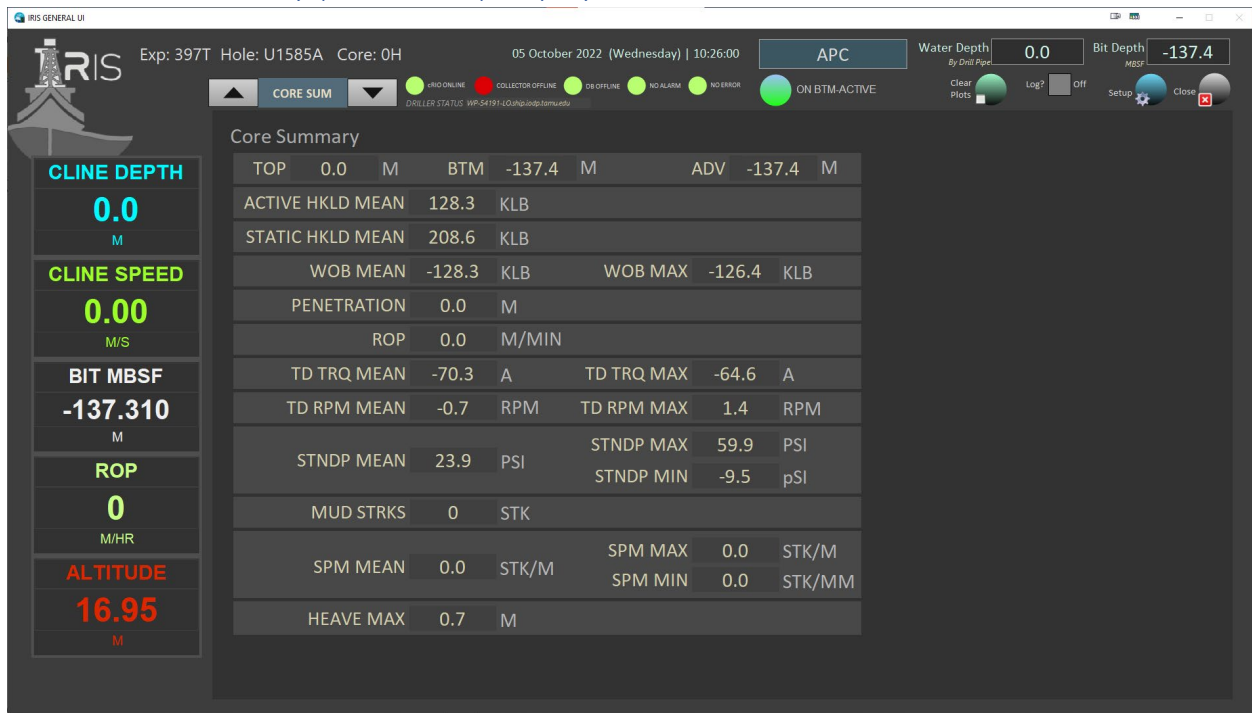

Figure 24. CORE Summary Display
The CORE SUMMARY display (*Figure 24. CORE Summary Display*) is a non-configurable, display-only page that is updated when the Driller completes one (1) core sampling operation. The page will be updated with coring and drilling information. No User input is available.